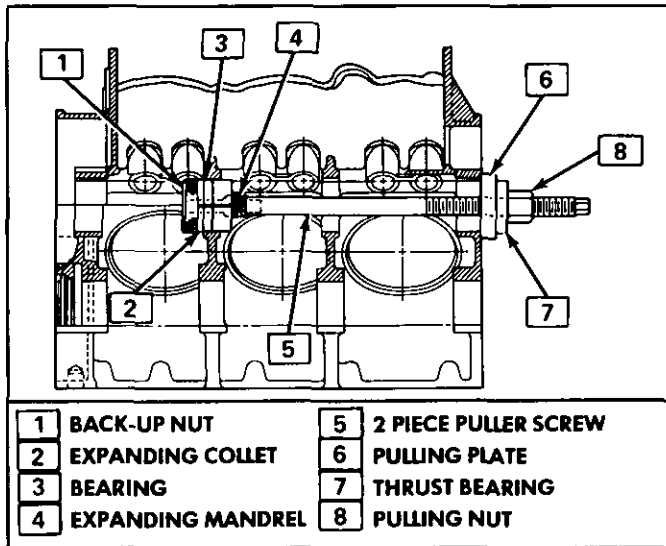

Figure 43 Removing/Installing Camshaft Bearings (Typical)
- Assemble bearing puller (Figure 43). Make sure the puller nut engages a sufficient number of threads.
- Place bearing onto the tool and index the oil hole(s) of the bearing with the oil passage(s) in the cylinder block. Pull bearing into place (Figure 43).